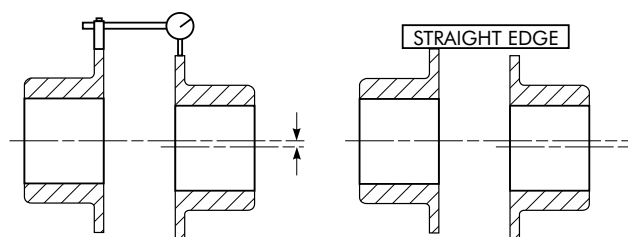

Figure 3
- E. **Parallel Offset.** Rigidly mount a dial indicator on one hub or shaft, reading the other hub flange outside diameter, as shown in Figure 3. Indicator set-up sag must be compensated for. Rotate both shafts together. Adjust the equipment by shimming and/or moving so that the indicator reading is within .002" per inch of the axial length between flex elements. See Chart "A".